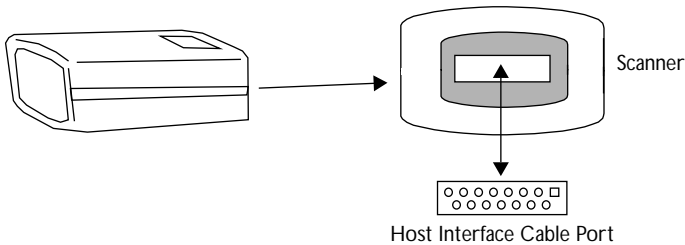

Figure 2-4. Host Interface Cable to Scanner Port
1. Connect the host interface cable to the port at the rear of the scanner's casing, as indicated in Figure 2-4